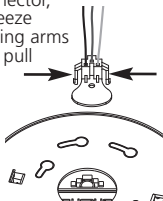
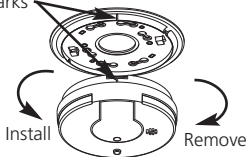

FIGURE 6
FIGURE 7
5. Plug the AC QUICK CONNECTOR into the back of the alarm (see figure 6), making sure that the locks on the connector snap into place. Then push the excess wire back into the electrical box through the hole in the center of the trim ring.
6. If you have finished all the WIRING, BATTERY INSTALLATION AND TRIM RING MOUNTING STEPS, you can install the alarm on the trim ring. Alignment marks are provided on the side of the alarm and on the trim ring (see figure 7).
7. Install the alarm on the trim ring with the indicating marks aligned and rotate the alarm in the direction of the "ON" arrow on the cover until the alarm snaps in place (see figure 7).
To replace the batteries, remove the alarm from the trim ring by rotating the alarm in the direction of the "OFF" arrow on the cover (see section 3, figure 7). To disconnect the AC power harness, squeeze the locking arms on the sides of the Quick Connector while pulling the connector away from the bottom of the alarm (see section 3, figure 6).